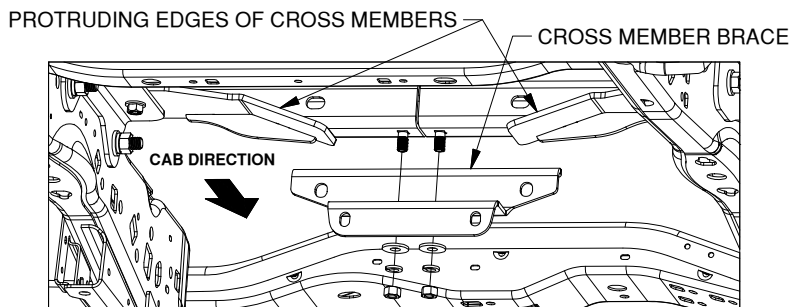

Figure C4: View looking up under the bed.
4. **Place the cross member brace.** The two front cross members will be joined by a cross member brace. Locate a cross member brace and two 1/2" flat washers, lock washers, and finish nuts. Hold the two front cross members up so that the carriage bolts are in line with each other. Place the cross member brace over two 1/2" carriage bolts, as shown in Figure C4. The brace will need to be moved around the protruding edges of the cross members as the bolts are inserted into the brace. Attach the brace with the 1/2" hardware. Leave the the hardware loose at this time.